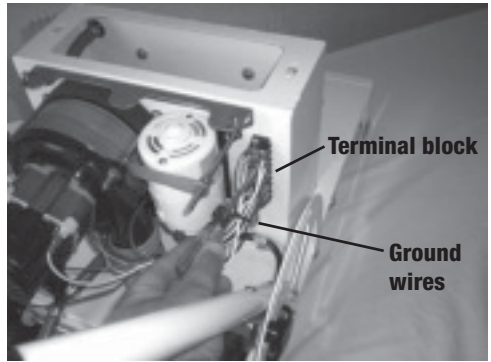

Figure 5
5. Unscrew pump's ground wire and black and white wires from the terminal block. (Fig. 5).